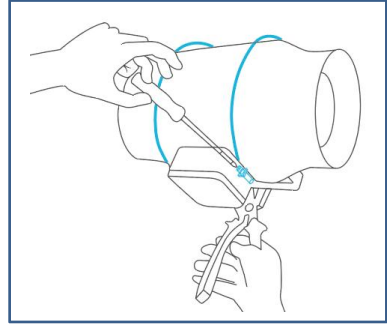

Fig.10.
5、 Place the metal rings back onto the flanges and tighten the screws back to secure the fan. See the (Fig.10.)